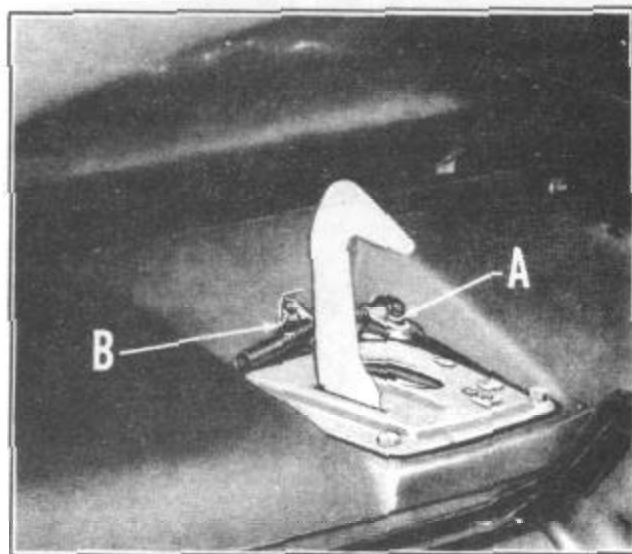

FIGURE 101
1. Remove screw and clip (A), Figure 101.
2. Disconnect hood lock release wire at retainer (B).